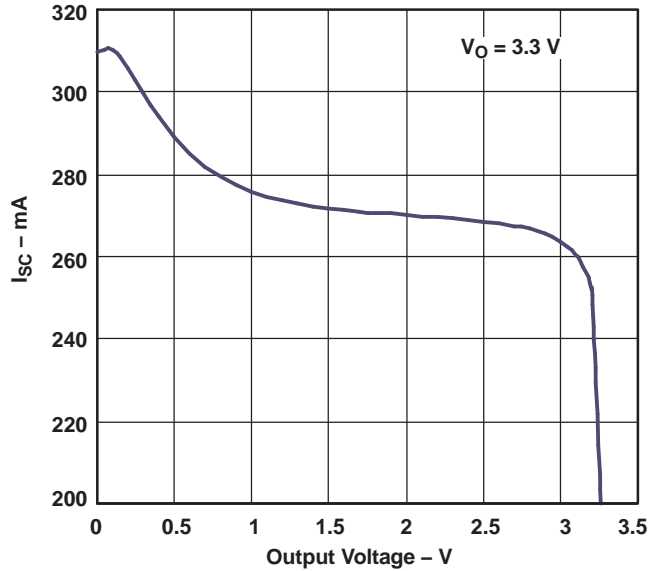

Figure 6.
(3) See Figure 6 in *Typical Performance Characteristics*.